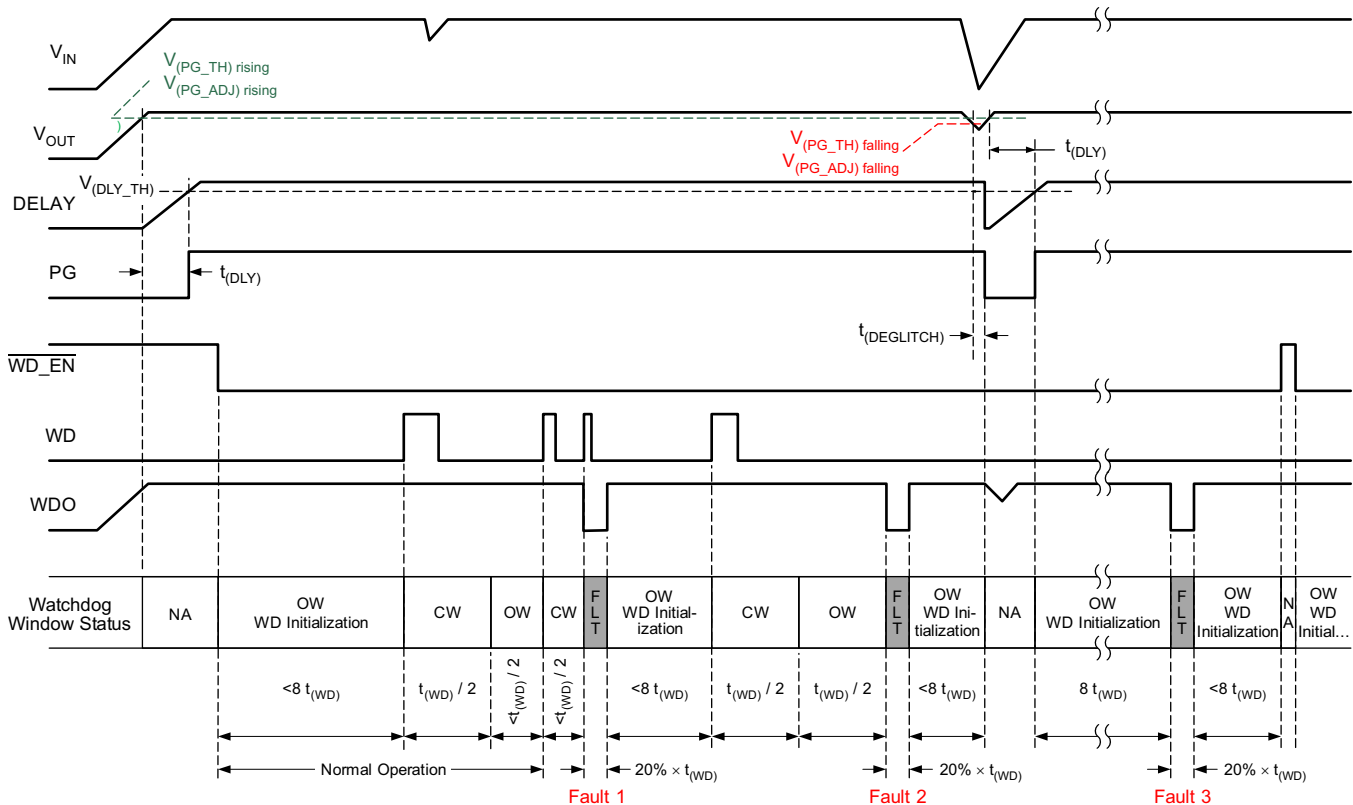

Figure 24. Window Watchdog Operation
The window watchdog is able to monitor whether the frequency of the watchdog service signal (WD) is within certain ranges. A watchdog low-voltage fault is reported when the frequency of the watchdog service signal is out of the setting range. Figure 24 shows the window watchdog initialization and operation for the TPS7B68-Q1 (WRS is low). After the output voltage is in regulation and PG is high, the window watchdog becomes enabled when an external signal pulls $\overline{\text{WD_EN}}$ (the watchdog enable pin) low. This causes the watchdog to initialize and wait for a service signal during the first initialization window for 8 times the duration of t_{WD} . A service signal applied to the WD pin during the initialization open window resets the watchdog counter and a closed window starts. To prevent a fault condition from occurring, watchdog service must not occur during the closed window. Watchdog service must occur during the following open window to prevent a fault condition from occurring. The fault output (WDO), externally pulled up to V_{OUT} (typical), stays high as long as the watchdog receives a proper service signal and there is no other fault condition.
Three different fault conditions occur in Figure 24: